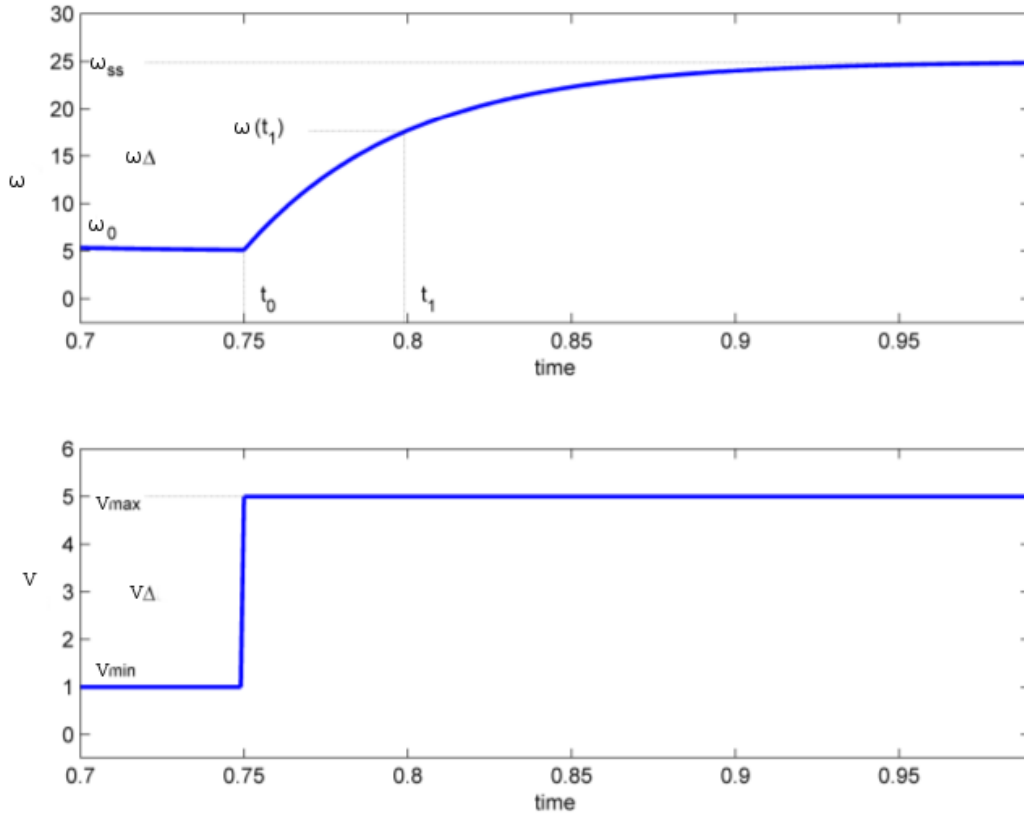

Figure 1: A First Order Response to Step Input
3. For a first order system, the time it takes a step response to reach 63.2% of its steady state value ($t_1 - t_0$ in Fig. 1) is the response's time constant τ . i.e., at time t_1 , $\omega(t_1) = 0.632\Delta\omega + \omega_0$. Find the time constant τ for the above system in Fig. 1.